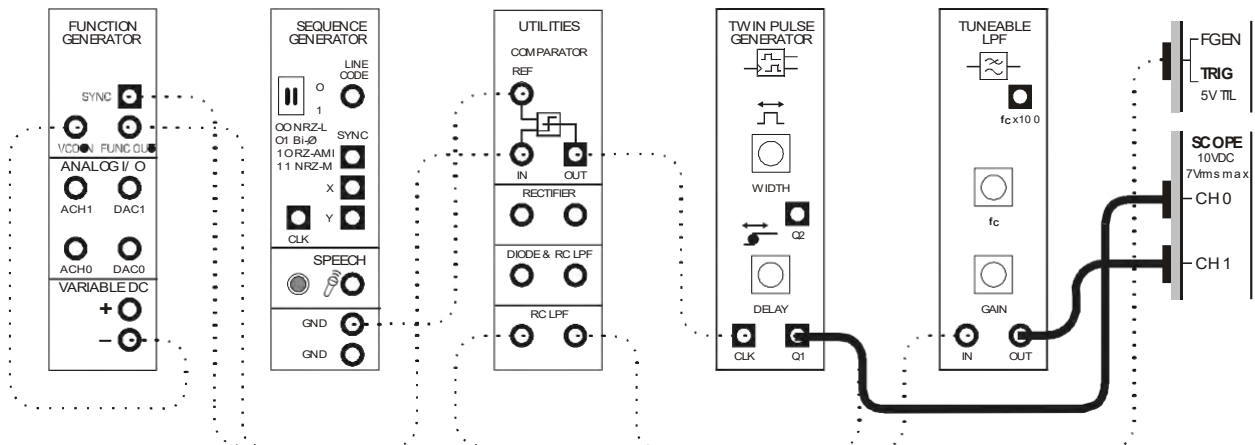

Figure 12
38. Rearrange the scope's connections to the set-up as shown in Figure 12 below.